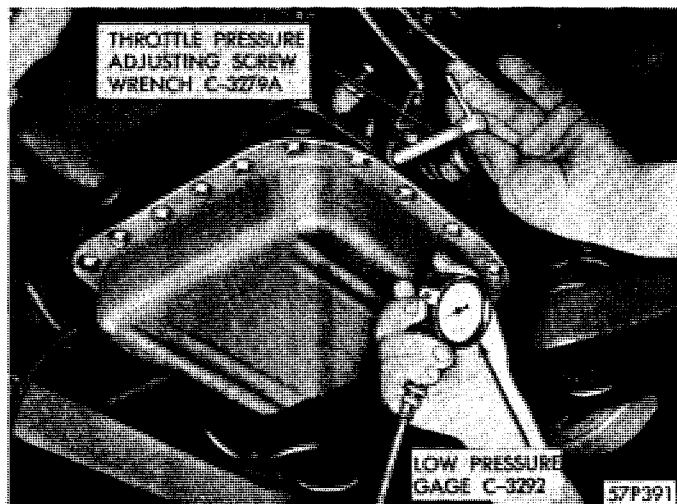

Fig. 5—Adjusting Throttle Pressure (Typical)
(5) Insert adjusting screw wrench, Tool C-3279A and adjust throttle pressure to 13-15 psi, as shown in Figure 5. Turn screw OUT to increase pressure and IN to decrease pressure.
(6) Replace the throttle valve adjusting screw plug and torque from 20 to 25 foot-pounds.
(7) With the accelerator pedal fully released, and engine at 475 to 500 rpm, the pressure should read 13 to 15 psi.
(8) Move the accelerator pedal or lever from underneath, very slowly.